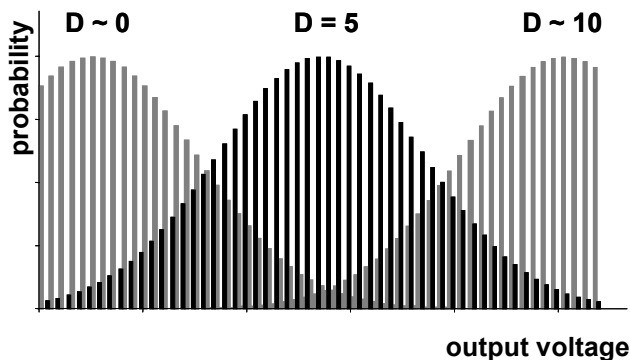

Fig.1: Probability distribution for different settings of "D"
With the control set fully counterclockwise most of the random voltages will be low magnitude but even medium and high magnitude voltages may appear but with smaller probability. As the control is turned to the right (or a positive control voltage appears at the CVD input) the distribution moves through medium to high magnitude voltage probability. The symbol at the lower jack ⑤ socket shows this coherence graphically (see also fig. 1).